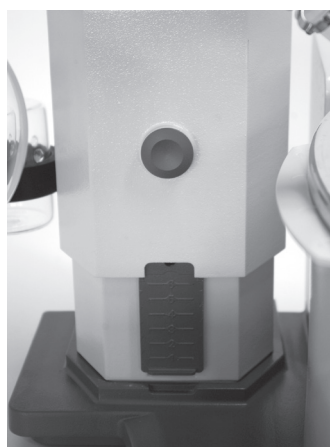

Fig. 19
- ☞ Move the stop (Q) to the desired position (Fig. 19)